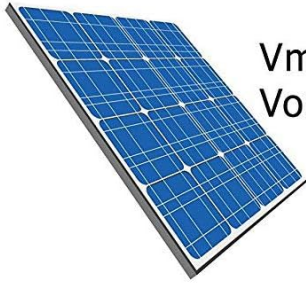

Figure 2: DC Input Terminals and Fuses.
- Inspect the fuses on the DC input side (Figure 2). Replace if blown.